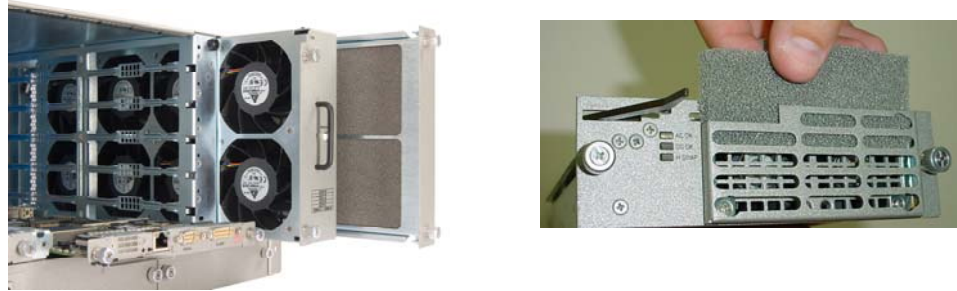

Figure 19 – Shelf Air filter and Power supply air filter extraction
- Figure 19 – Shelf Air filter and Power supply air filter extraction